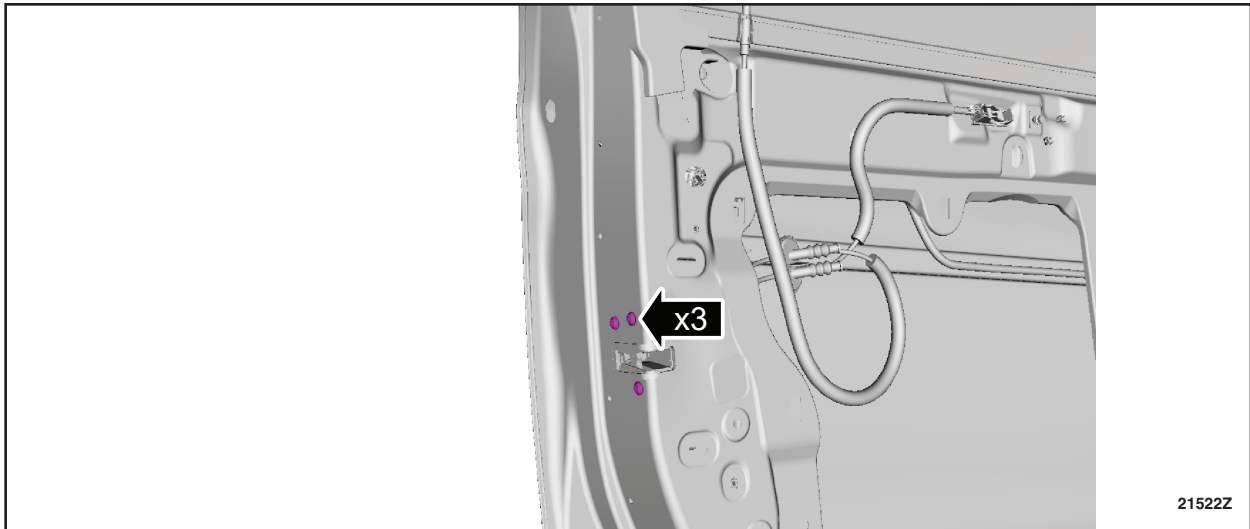

**FIGURE 35**
21. If equipped, disconnect the keyless entry keypad electrical connector, the front door latch electrical connector and the front door latch jumper harness electrical connector. See Figure 35.